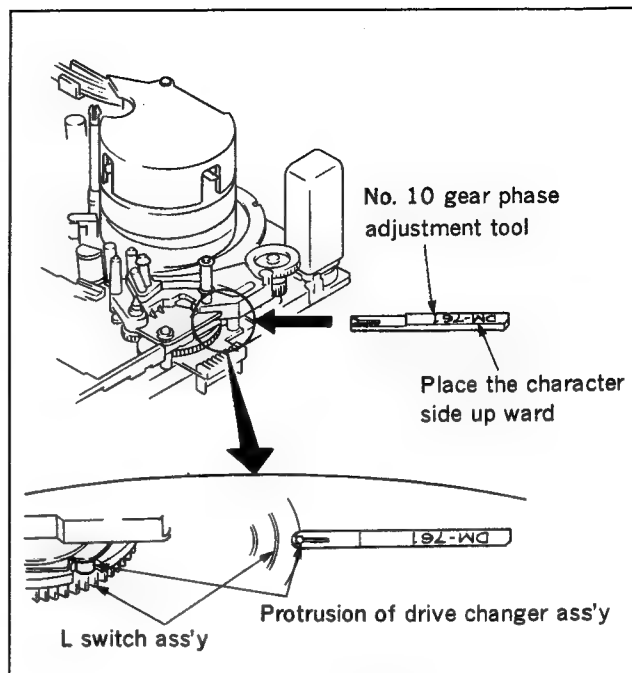

Fig. 4-4-2 No. 10 gear installation
12. **No. 10 gear installation (Fig. 4-4-2)**